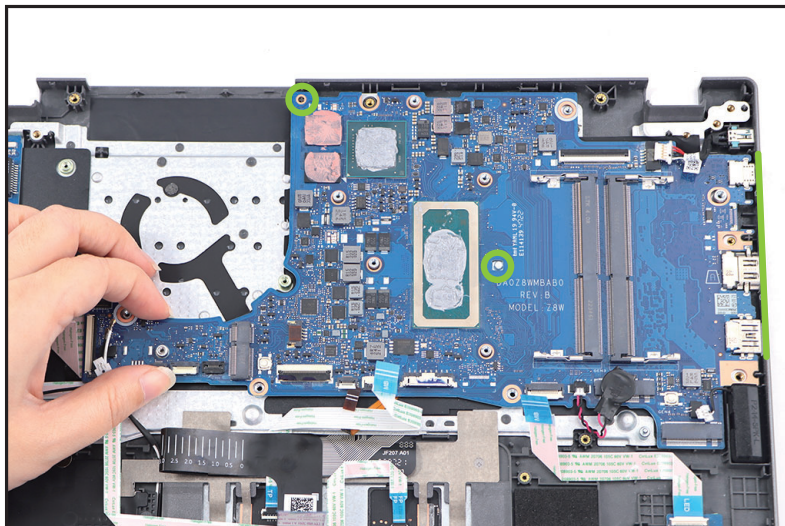

Figure 1-34. Mainboard Removal
12. Slightly lift to release the mainboard from the guides (marked with green circles) and then release it's I/O ports from the I/O slots on the top assembly (Figure 1-34).